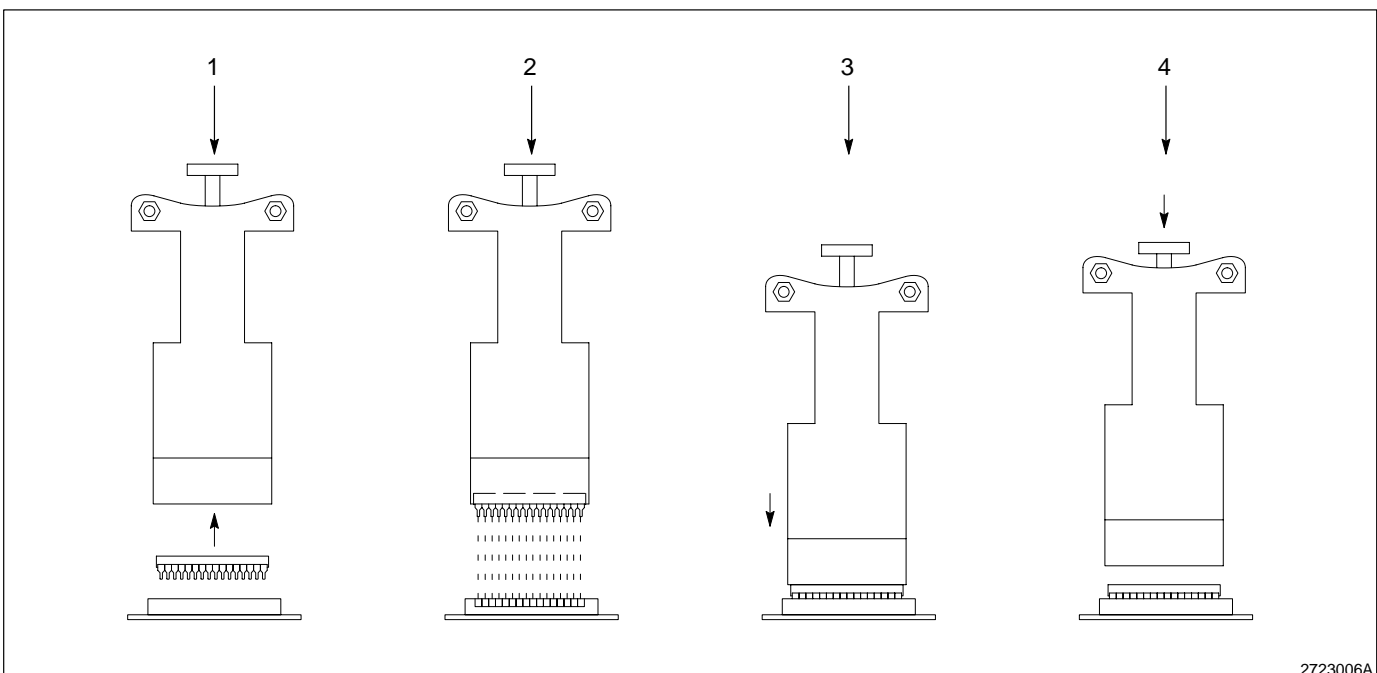

Fig. 6 Installing CPU Board Chips with the Installation Tool
**NOTE:** Steps 1–4 of this procedure refers to the callouts in Figure 6.